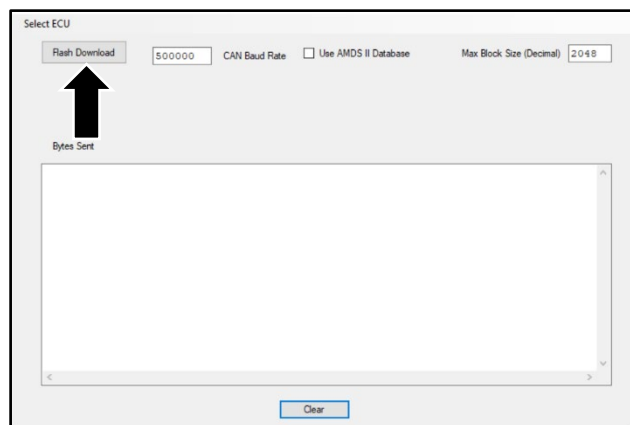

Figure 7
14. Select "Flash Download" (refer to Figure 7).